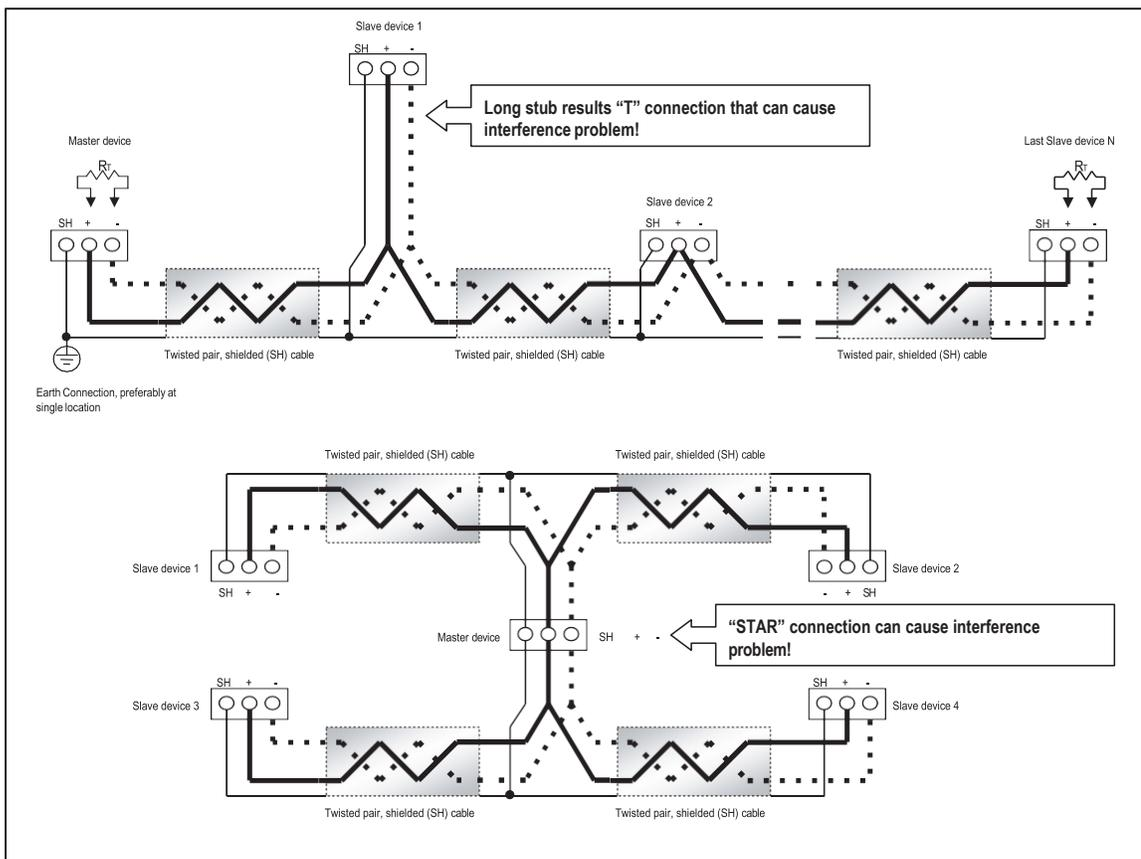

FIGURE 5.4: Incorrect "T" and "Star" Topologies
- Avoid both "Star" and "Tee" connections (see Figure 5.4).